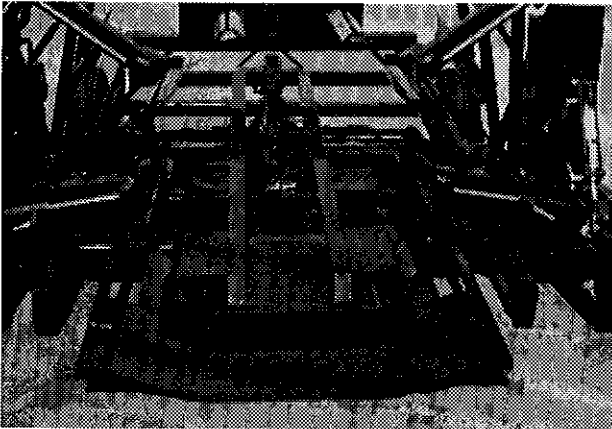

Figure 21
- 2) Close the stretcher arms to the most inward position and pull out the tube support plate. (Fig. 21)